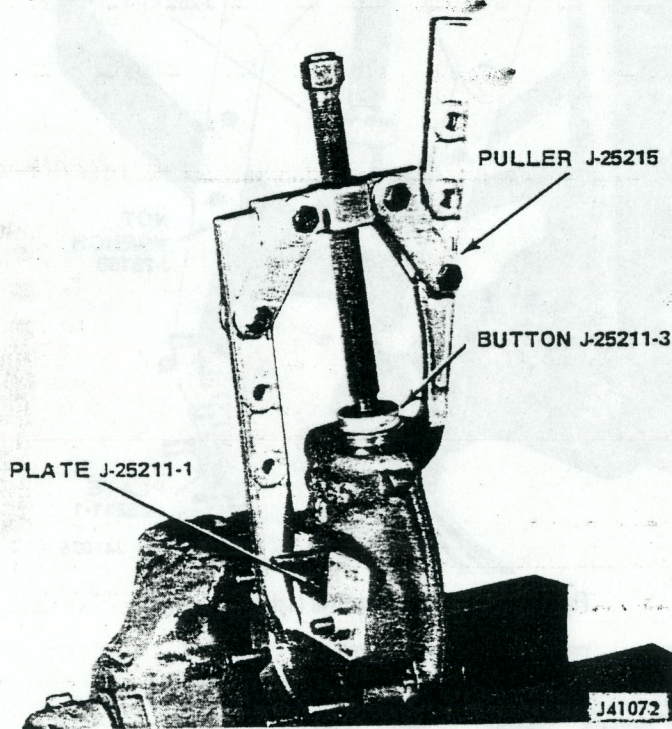

Fig. 2F-8 Lower Ball Stud Removal
(4) On all models, thread puller frame halfway onto puller screw. Insert nut-end of screw through lower ball stud hole in steering knuckle. Position puller frame against knuckle and puller screw against Button J-25211-3 (fig. 2F-9). On CJ models, be sure Adapter J-25211-4 is positioned between puller frame and steering knuckle.
(5) Tighten puller screw to press upper ball stud out of knuckle.
(6) Remove tools used to press upper ball stud from knuckle. Do not disassemble screw and frame of Puller J-25215 at this time. Tools will be used, as assembled, to install lower ball stud.